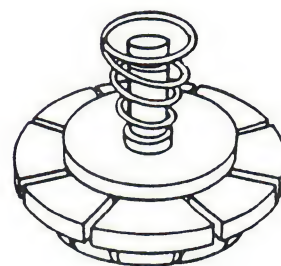

FIGURE 6
5. Remove the collet hub assembly (Fig. 6); remove the spring and washer from the collet hub. (Remove the spring carefully, taking care not to stretch it.)
7. Holding the Disk Alignment Tool as in figure 6, insert it all the way into the drive and leave the drive door open; then turn the disk drive upside down.